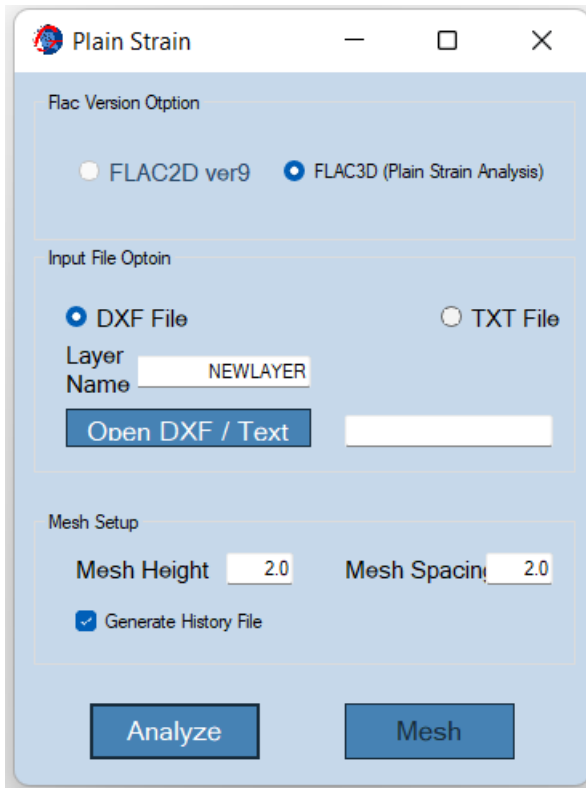

Figure 37: Plane Strain Dialog Window.
This option creates meshes for Plane Strain analysis, either in FLAC3D or in FLAC2D. The dialog window is shown in Figure 37. This option uses a DXF files for creating all layers in the Plane Strain mesh.
- **Mesh:** Creates the Plane Strain mesh using the options defined in Figure 37.